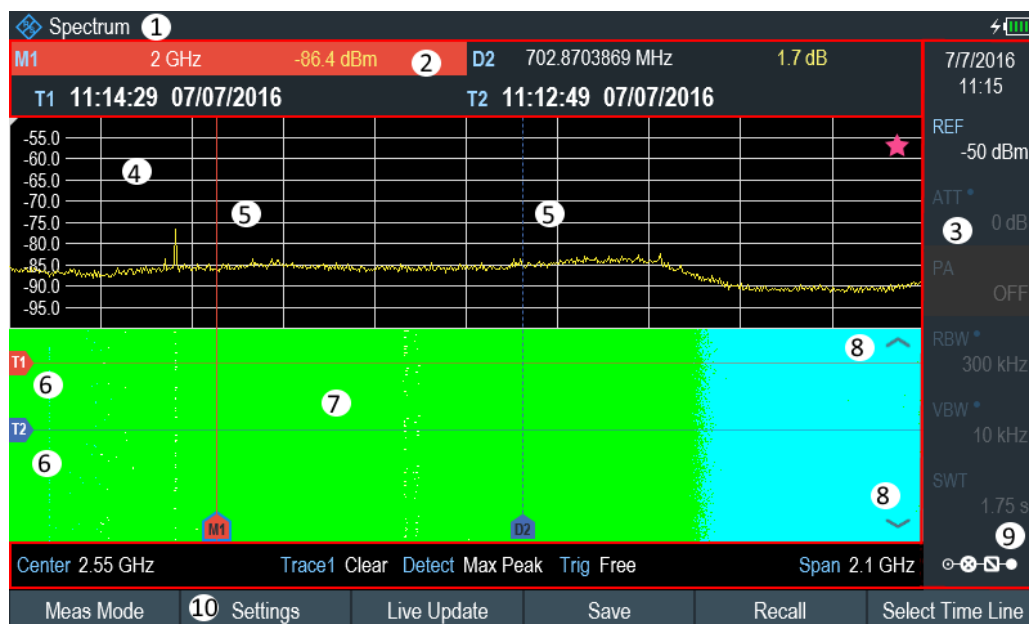

Figure 6-8: Screen layout for the spectrogram
5. To evaluate the measurement result, scroll up and down on the spectrogram scrollbar icon (see item 8 of Figure 6-8) to the frame that you are interested to view.